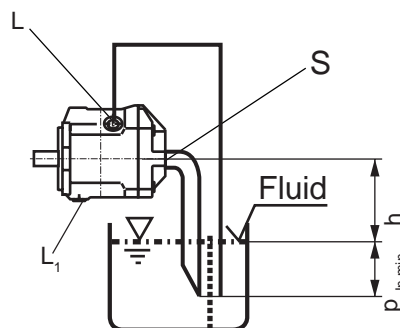

Fig. 4
- b) If the minimum fluid level is below the top of the pump, pipe ports "L", "L₁" and possibly "S" as fig. 4. The conditions correspond to item 1.2.1.
- a) When mounting above the tank, see fig. 4. Conditions correspond to 1.2.1.